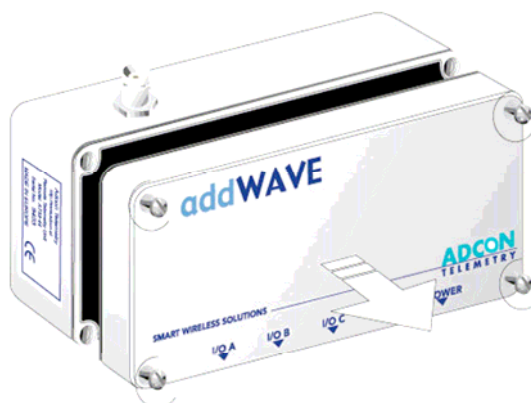

Fig. 3: Removing the A73x Lid
1. Open the lid of the A733GSM/GPRS RTU by unscrewing the four bolts in the corners of the RTU and then remove the lid as shown in Figure 3 .